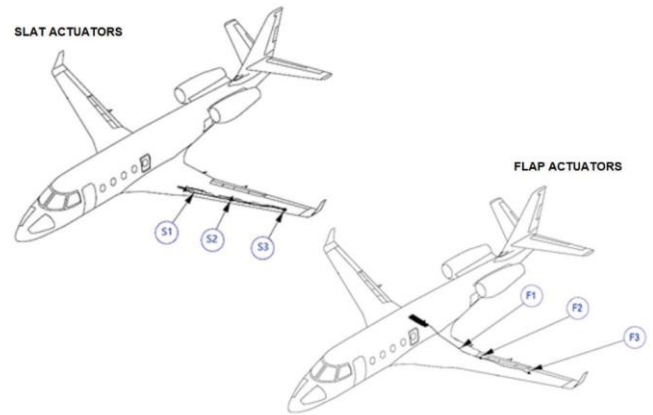

Figure 1: G150 Equipment Installation Locations, Left Wing Shown.
The STC adds heater components to each of the twelve (12) actuator devices, a control module located in the fuselage, a cockpit switch/annunciator and associated bracketry and wiring. Figure 1 shows an overview.